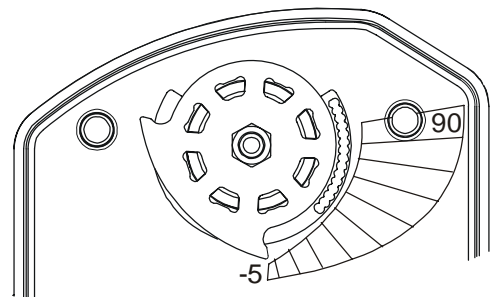

Figure 6: Washer Orientation on Actuator
6. Placing the washer in the orientation shown in Figure 6 allows for use of the adjustable end-stop if desired.